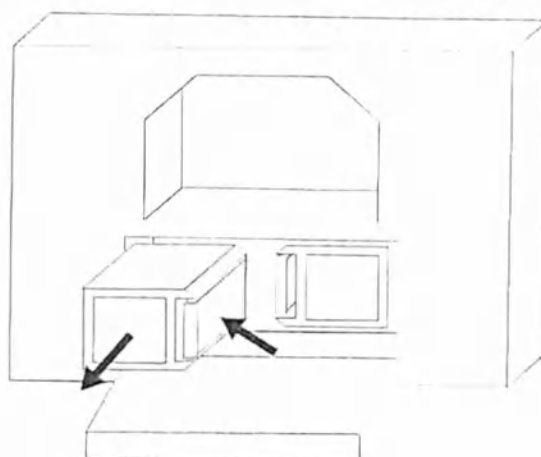

Fig. 30 - Taking out of the fuses
2. fuses are housed in other two separate containers which must be taken off the housing: push at the same time towards bottom and outwards the blocking tag as shown in Fig. 30.